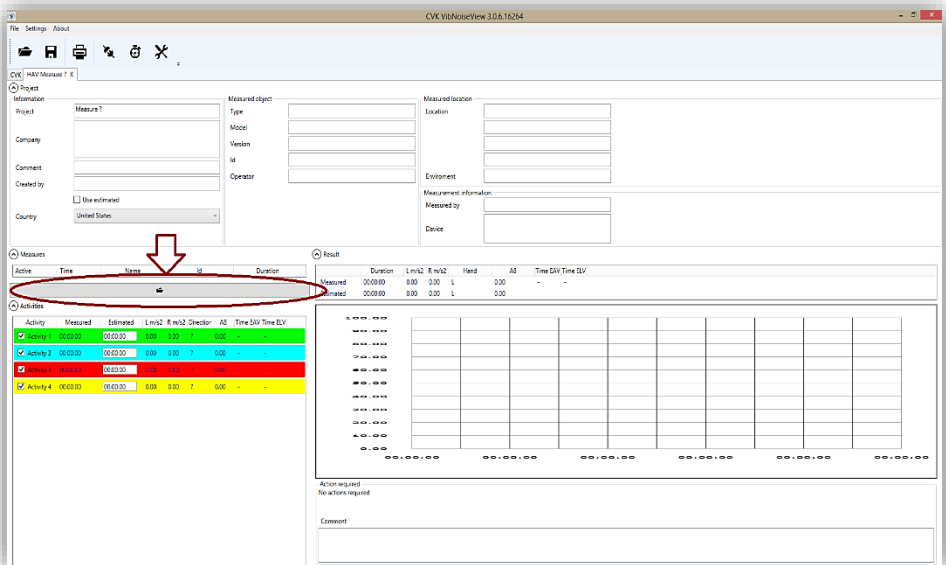

Figure9: Open a saved measurement file
2. Click on 'Open button' in "Measures" section to open your saved measurement files. (see figure9)